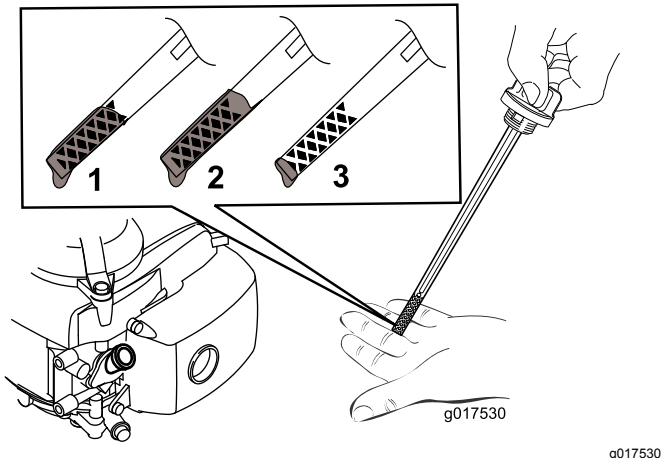

Figure 10
5. To determine the proper oil level on the dipstick, refer to Figure 10.
- Note:** Fill the engine crankcase with oil until the dipstick indicates that the engine oil level is correct as shown in Figure 10. If you overfill the engine with oil, remove the excess oil as directed in Changing the Engine Oil (page 14).